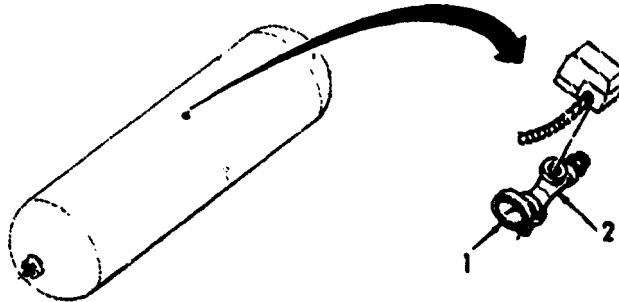

Figure 4-2. Air Pressure Gage, inspection/Removal/installation.
a. **Inspection.** (Refer to Fig 4-2) Inspect the gage glass for breaks or cracks, dented body, or if needle is bent or broken, or if gage is inoperable. Replace the gage if the glass is broke or cracked, the needle is bent or broken, or if the gage is inoperable. Turn air compressor ON and observe gage operation.
b. **Removal.** (Refer to figure 4-2.). Unscrew pressure gage (1) counterclockwise from cross (2).
c. **Installation.** (Refer to figure 4-2.)
(1) Wrap anti-seize tape (item 19, appx D) around male thread of pressure gage (1).
(2) Screw pressure gage (1) clockwise into cross (2) until tight. Energize air compressor and check for leaks. Repeat installation if leakage is indicated.